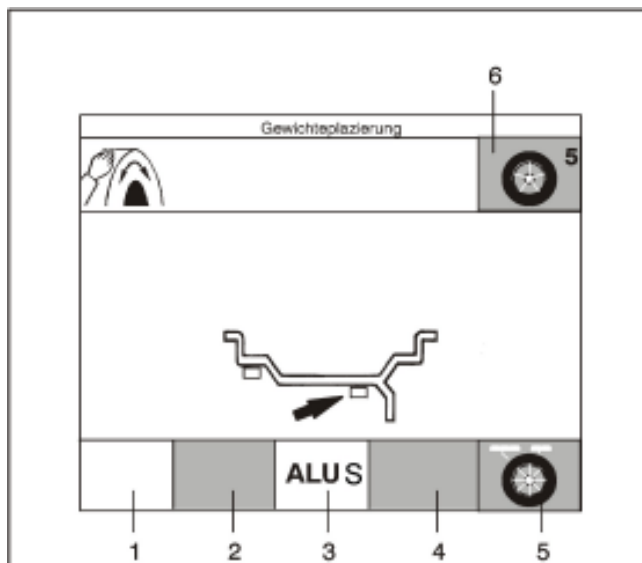

Fig. 59
The „Balancing mode„ screen as in **Fig. 59** comes up, showing balance clips on the rim.
- In the screen as in Fig. 59 press keys 2 and 4 respectively to choose the desired balancing mode (hidden weight - arrow).
Once Alu S is chosen, the icon for behind-the-spokes placement (Fig. 59, Item 5) is displayed.
Next, the icon with the chosen number of spokes appears in the information line (Fig. 59, Item 6).